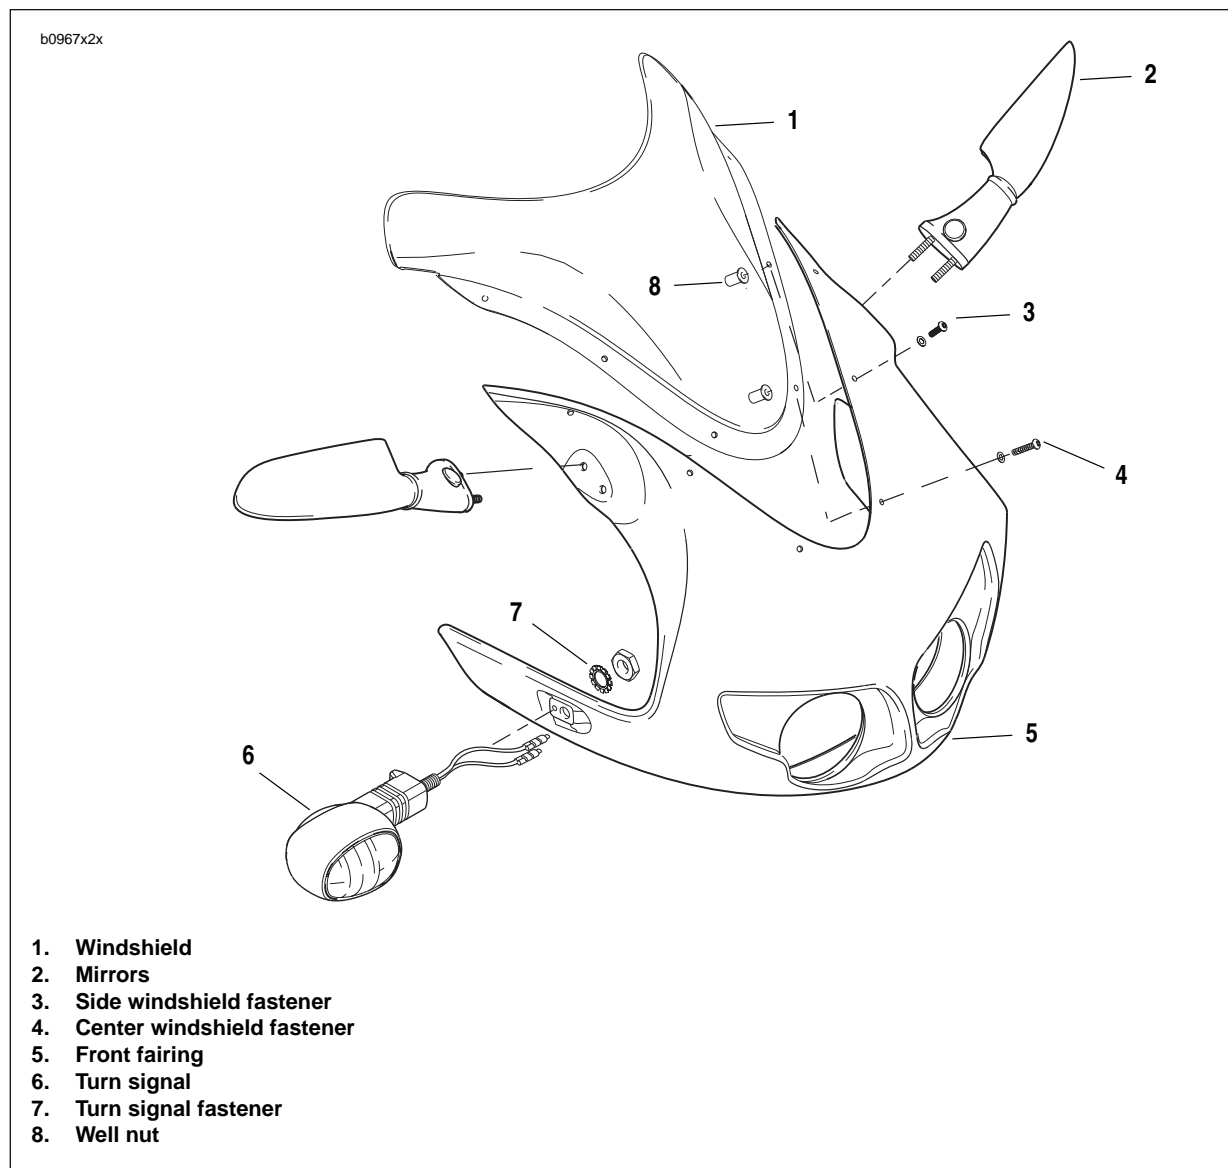

Figure 2-123. Front Fairing and Windscreen
1. See Figure 2-123. Remove two center (4) and four side windscreen fasteners (3) to remove windshield (1).
2. Remove mirrors (2).
3. Remove turn signals (6, 7). See 7.14 TURN SIGNALS and remove front fairing (5).
1. See Figure 2-123. Position fairing (5) onto fairing support bracket and install turn signals (6, 7). See 7.14 TURN SIGNALS.
2. Install mirrors (2) with fasteners and tighten to 72-96 **in-lbs** (8-11 Nm).
3. Install two center (4) and four side windscreen fasteners (3) and tighten to 10-12 **in-lbs** (1-1.4 Nm).